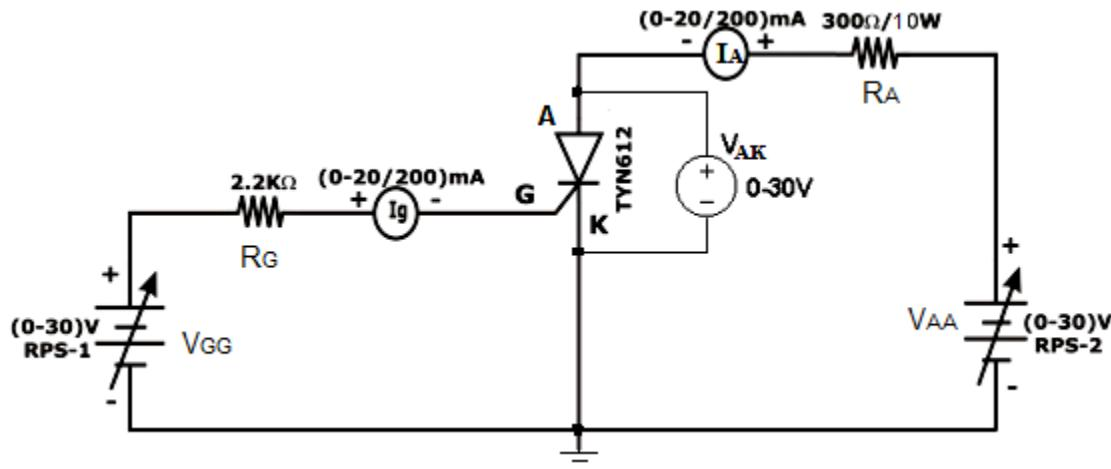

Fig.5.1
1. Connection are made as shown in fig. 5.1.